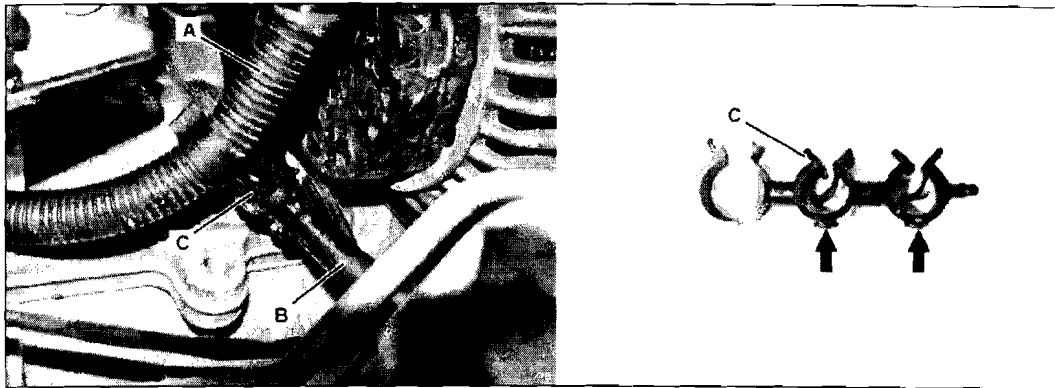

Figure 2
1. Cut off bottom pins (arrows) on the two small clips and assemble clips (C) as shown in Figure 2.
2. Fasten starter wiring harness (A) to oil dipstick guide tube (B) using clips (C).